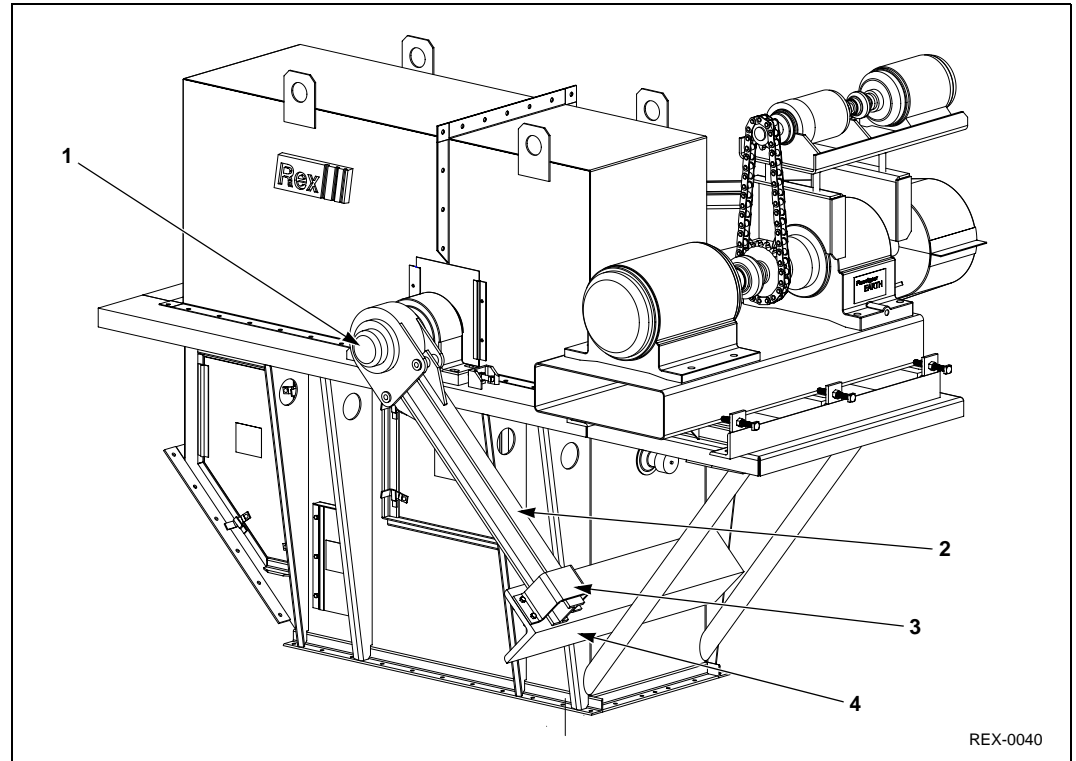

Figure 4-41:
- a. Externally mounted backstop mounted on the equipment's head shaft with an integrated torque arm that is supported from equipment's frame or casing. See Figure 4-41.